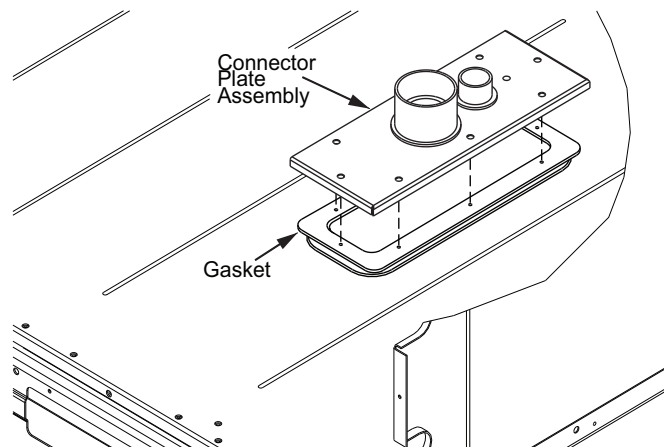

Fig. 49 — Installing Thru-the-Base Option — 50WE*H08/12 Units
3. Place the gasket over the embossed area in the basepan, aligning the holes in the gasket to the holes in the basepan. (See Fig. 49.)